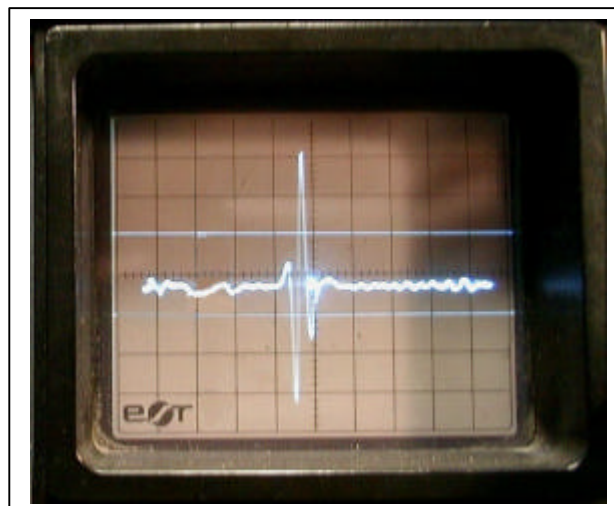

Fig. 4 Eddy current signal in Y/t mode from EDM notch in the reference standard, shown with alarm thresholds.
10. If you wish, you can now fine-tune the filters. Press the filter button •. Toggle to time-base display (Y/t). On the screen you will see the vertical component of the eddy current signal displayed as a function of time. The B1 is synchronized with the rotor to show exactly one revolution of the probe. You will see the spike from the EDM notch in the reference standard and a base-line signal from the rest of the bolt hole wall (Fig. 4).